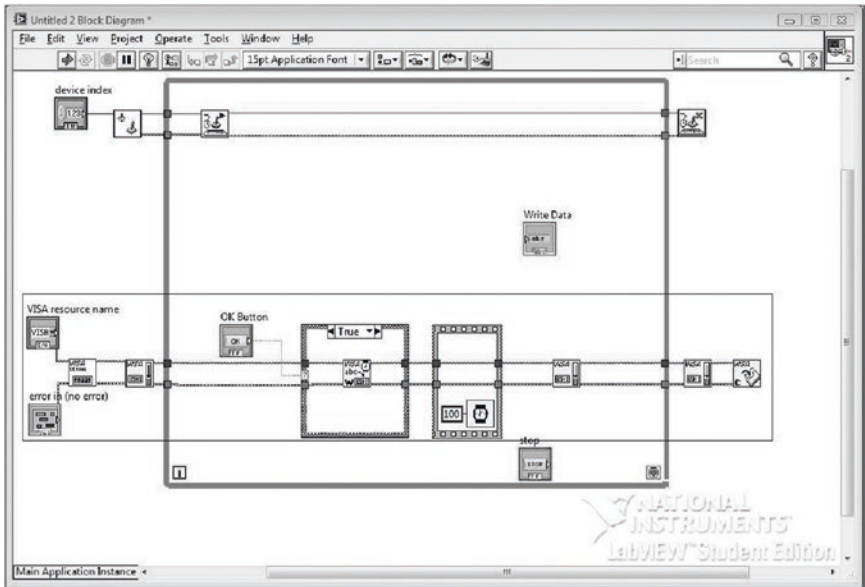

Figure 10-24. Add serial communication to the Block Diagram (part 1 of 2)
17. Right-click the VISA resource name terminal on the left side of the VISA Configure Serial Port Function; a pop-up menu will appear. Go to Create ► Control on that pop-up menu, and a control will be created on the Block Diagram and the Front Panel. Figures 10-24 and 10-25 illustrate adding the Serial Functions to the Block Diagram.
18. Then, right-click the error on the left side of the VISA Configure Serial Port Function; a pop-up menu will appear. Go to Create ► Control on the pop-up menu, and a control will be created on the Block Diagram and Front Panel. Figures 10-24 and 10-25 show the process of adding the error cluster to the Block Diagram.